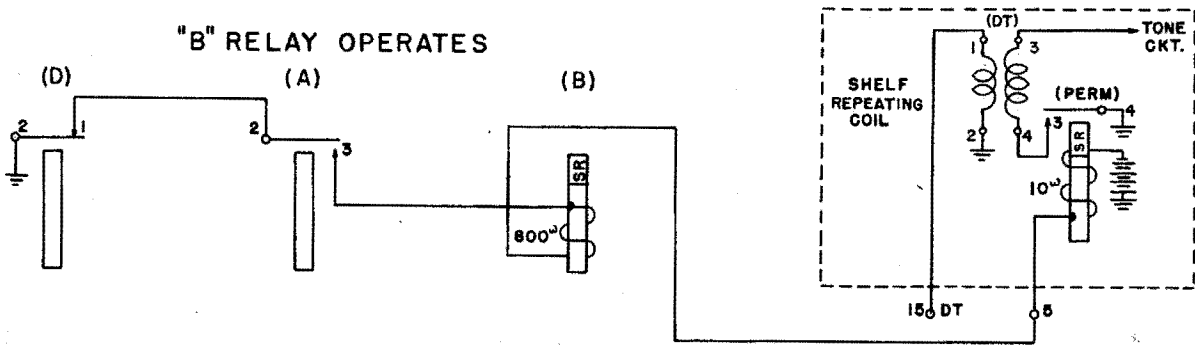

FIG. 2
Relay (B) and permanent (PERM) shelf alarm relay operate in series (Fig. 2) from ground on 2-1 contacts of (D) relay, 2-3 contacts of (A) relay, 800 ohm winding of the (B) relay, terminal 5 of the switch jack, 10 ohm winding of the permanent (PERM) shelf alarm relay, to battery.